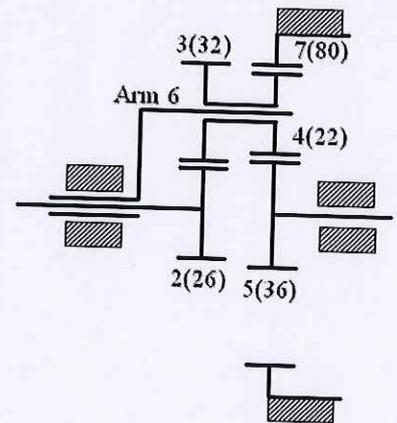

Figure 4 Planetary gear train
4. For a planetary gear train as shown in figure 4, if  $\omega_2=1800\text{rpm}$  (CCW), please find the rotation speed of gear 5 and its rotation direction. (20%)